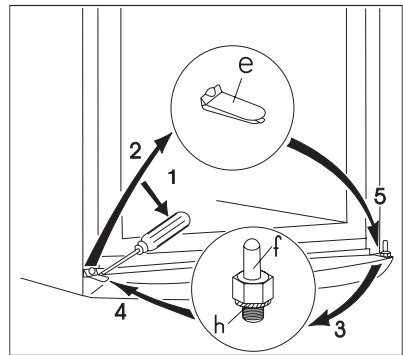

fig. 3.
10. Remove the plugs (u) at the bottom of the appliance. (fig. 3)
11. Remove the lower hinge (e) by removing its screws (s) and mount it on the other side. (fig.3)
12. Unmount the lower hinge pin (f) and its washer (h) and mount them into the other hole of the lower hinge. (fig.3)